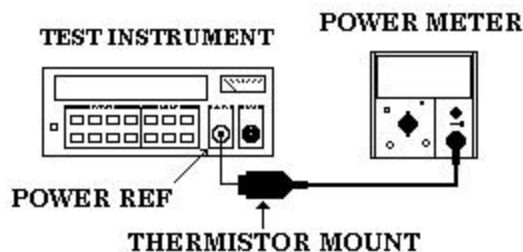

Figure 2. Power reference level test setup.
(3) Set power meter **LINE** switch to **OFF** position.
(4) Connect multimeter between center conductor of power meter rear panel **VRF** connector and pin 1 of thermistor mount end of power meter interconnect cable.
(5) Round off multimeter indication to two decimal places and record value as R (approximately 200Ω).
(6) Disconnect multimeter from power meter interconnect cable.
(7) Connect equipment as shown in figure 2.